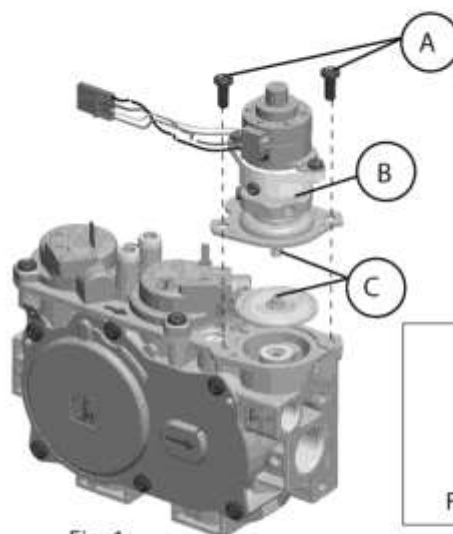

Fig. 1
2 See Fig. 1. Using a Torx T20, or slotted screwdriver, remove and discard the two (2) pressure regulator mounting screws (A), pressure regulator tower (B), and the spring and diaphragm assembly (C), (if applicable).